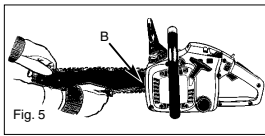

Fig. 5
1. Hold nose of guide bar up and turn adjustment screw (D) **CLOCKWISE** to increase chain tension. Turning screw **COUNTERCLOCKWISE** will decrease amount of tension on chain. Ensure the chain fits snugly all the way around the guide bar (Fig. 5).